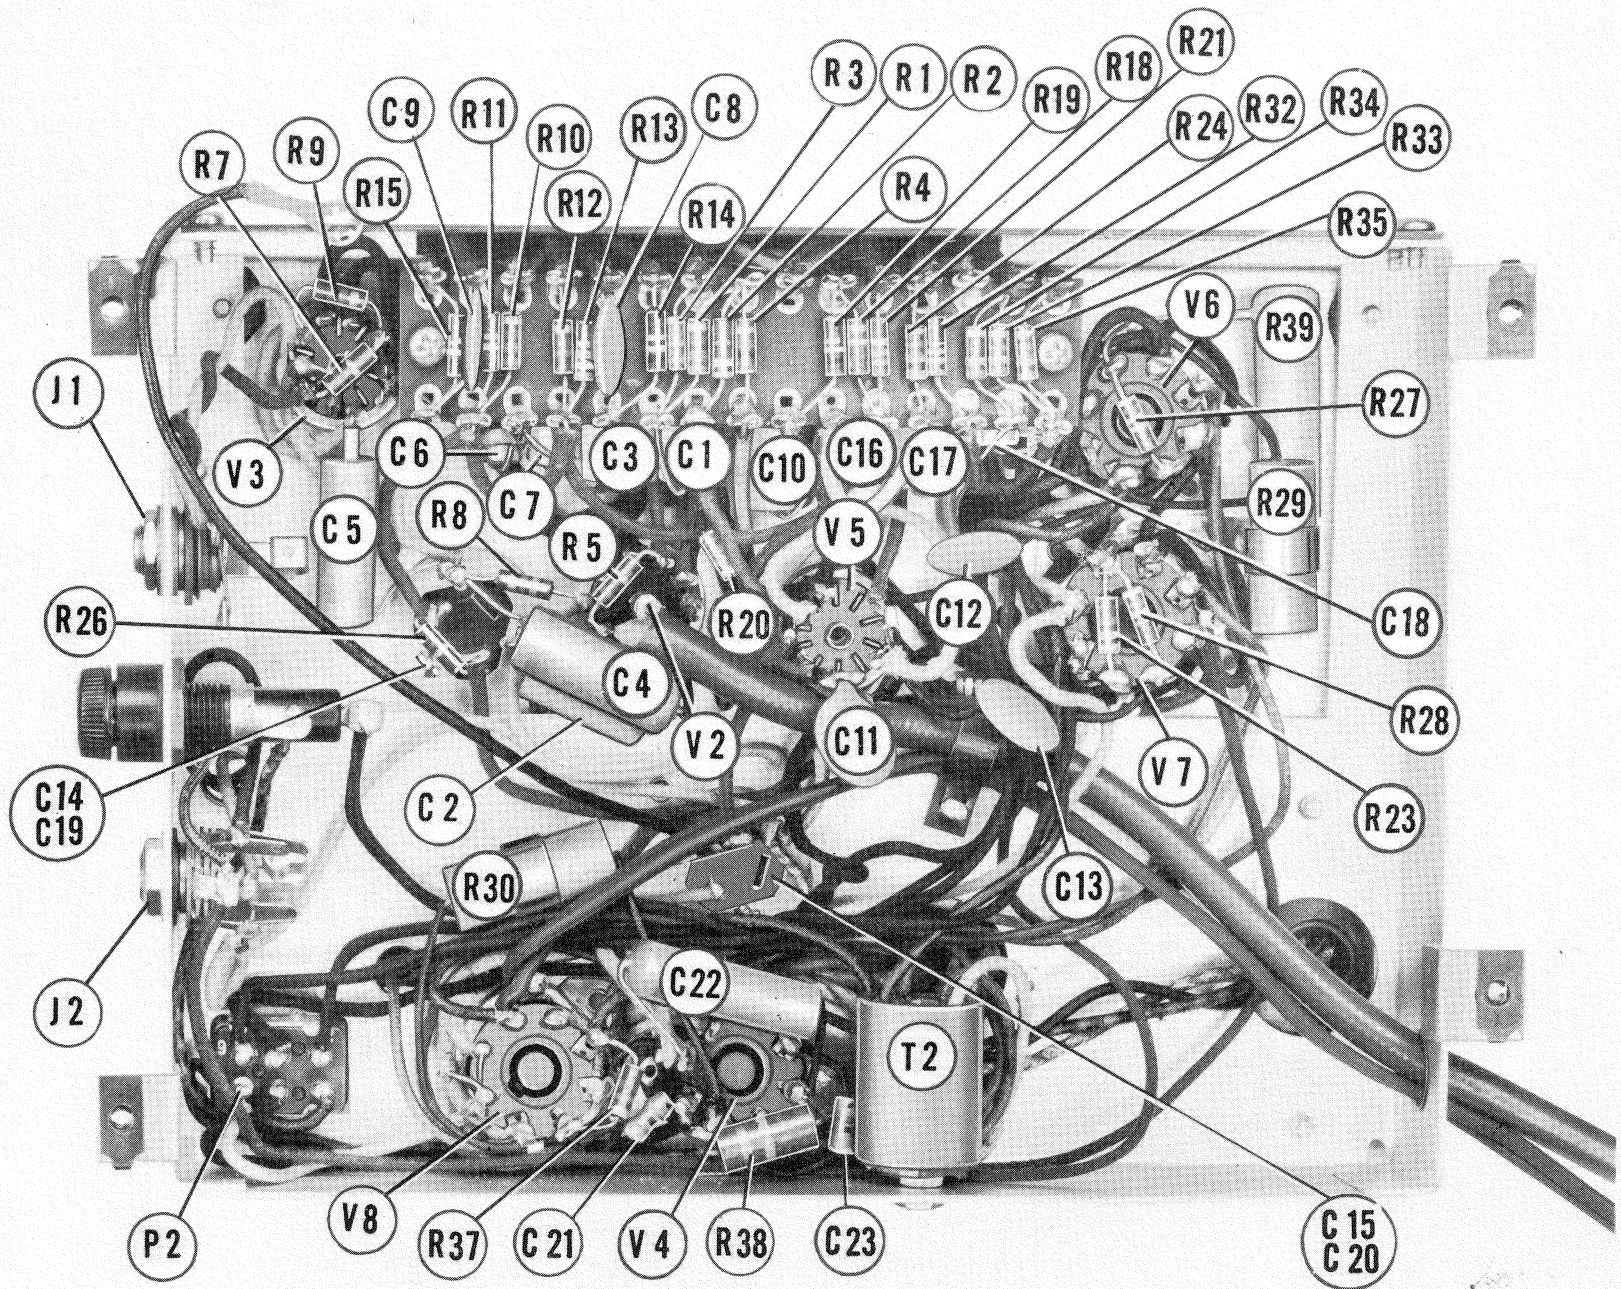
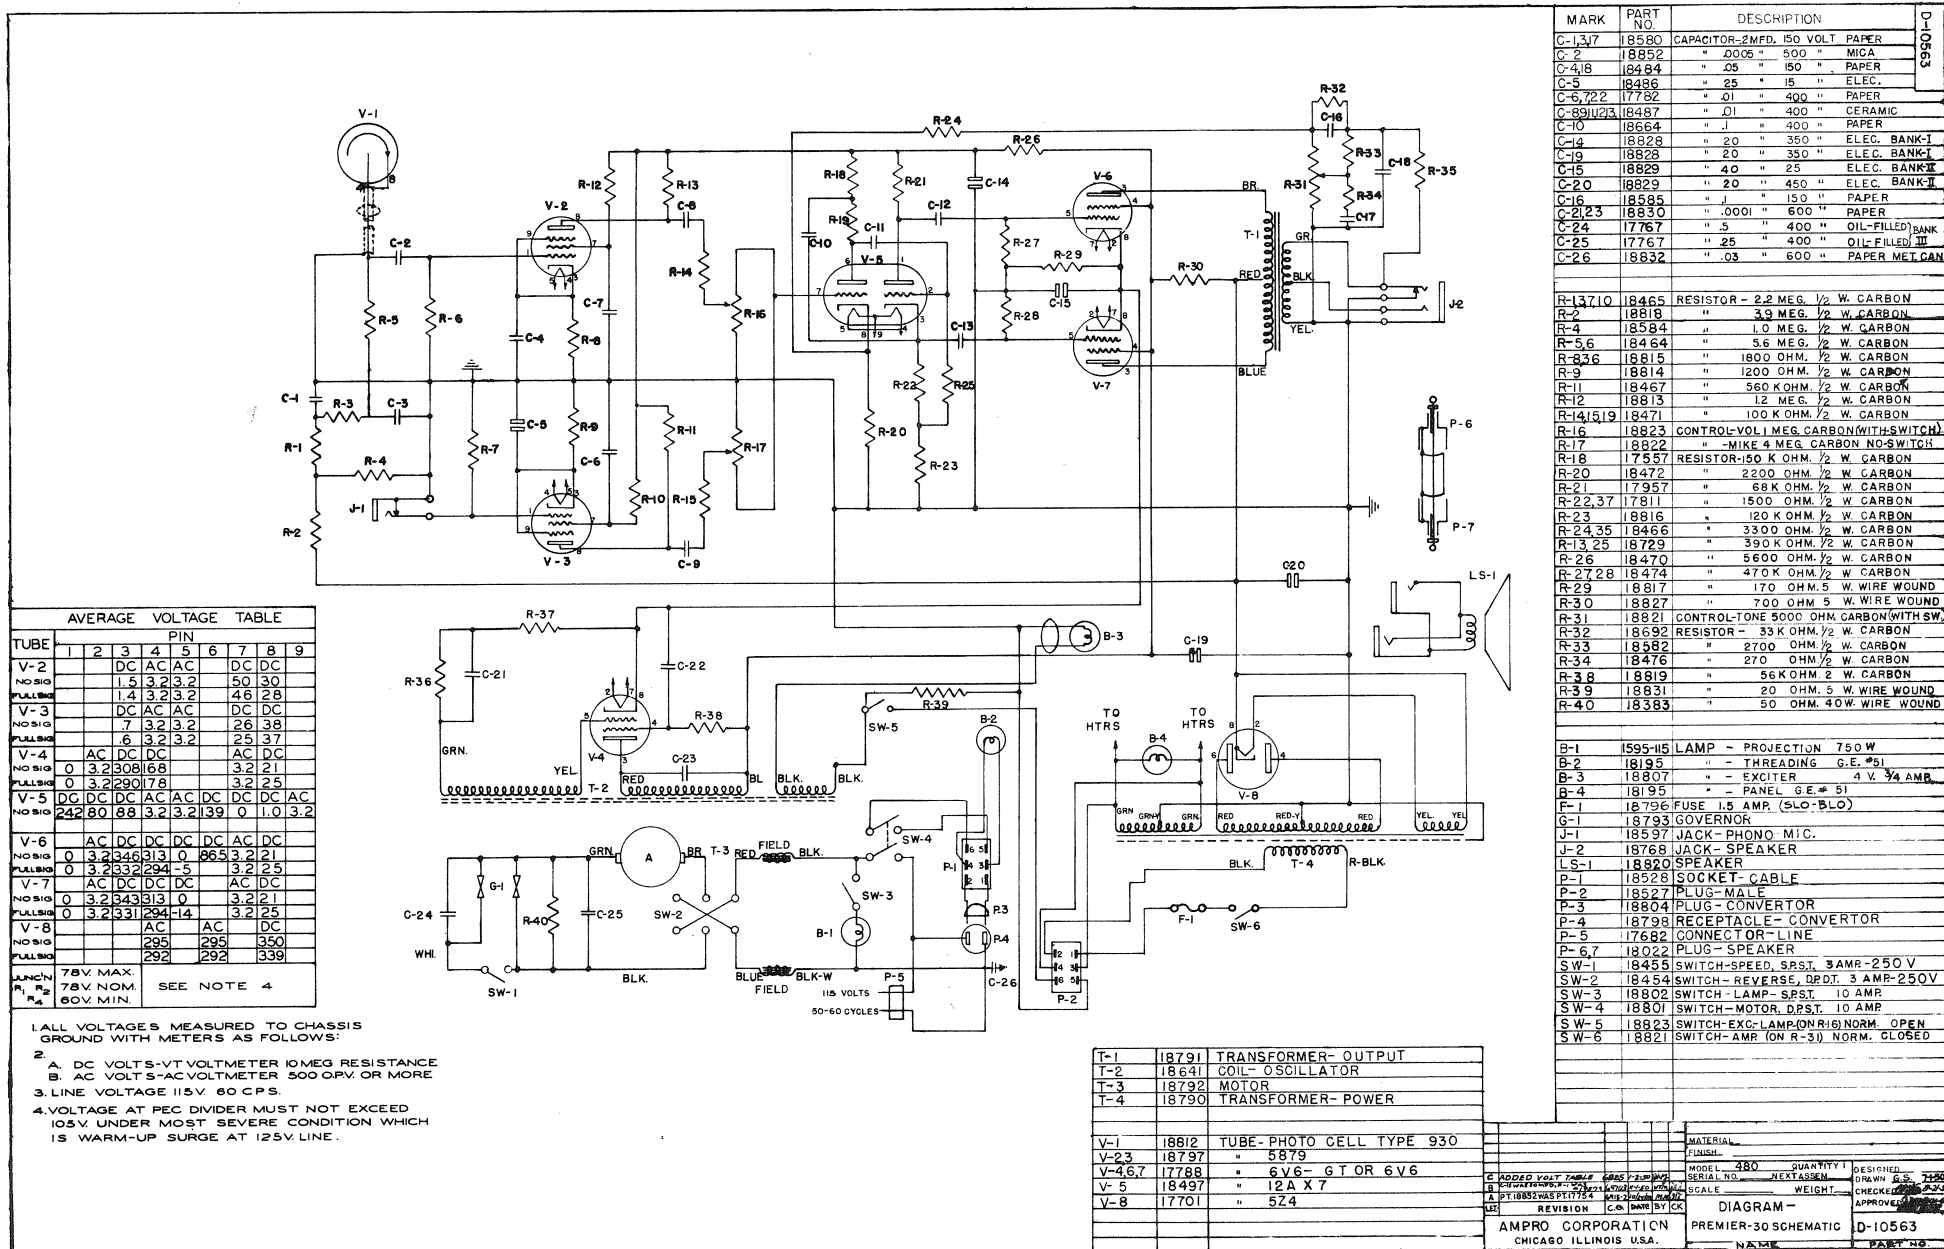

FIGURE 12—AMPLIFIER ASSEMBLY (P-30)
FIGURE 13—SCHEMATIC DIAGRAM (P-30)
- b. Servicing - Remove the four screws which hold the bottom cover in place. Refer to Fig. 12 for layout of components and to Fig. 13 for schematic diagram. Use an adaptor cord to operate the amplifier on the bench or drop it in place in the amplifier housing and connect it to regular projector circuits.